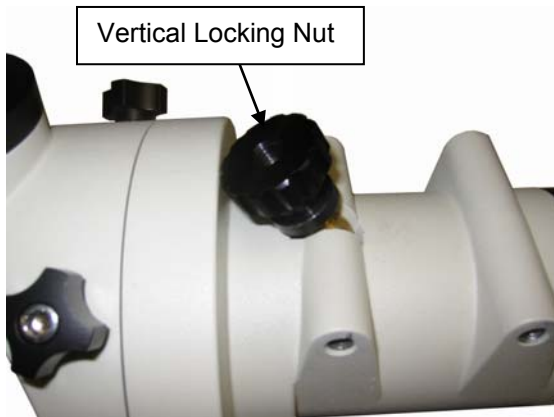

Figure 19
21. Thread Vertical Locking Nut onto the top brass latitude post of the mount (Figure 19).